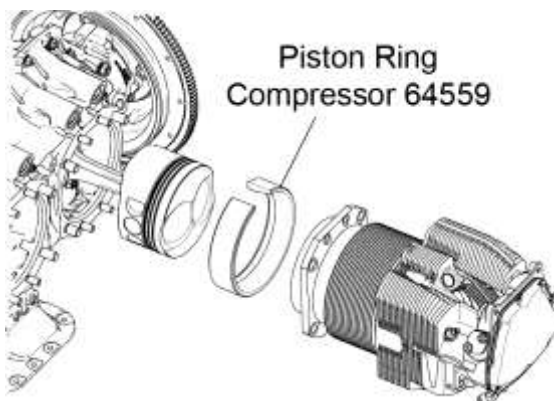

Figure 38
E. Use the Piston Ring Compressor (64559) to install the cylinders (Figure 38) as follows: